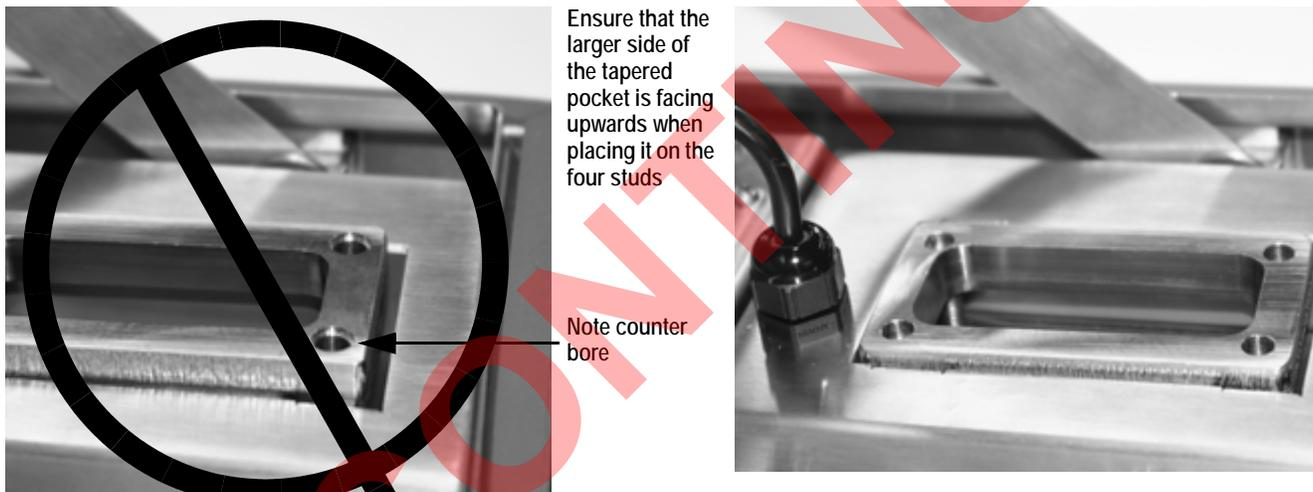

Figure 1-8. Incorrect and Correct Orientation of Main Plate
Note Ensure that the split communications cable main plate is oriented so that the tapered side is facing up as shown in Figure 1-8. An easy way to tell if the main plate is oriented correctly is to note that the four holes on the main plate have counter bores which should face down.
10. Place the O-ring over the cable end and into the groove around the split seal plates (Figure 1-8, right image). This will hold the plates together and also offer a watertight barrier.